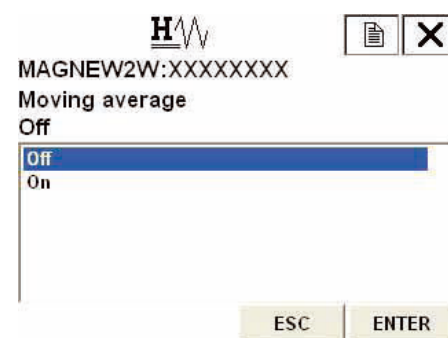

Figure 7-24
Figure 7-24 will then be displayed.
2. Once the display as shown in Figure 7-24 appears, move the arrow key up or down to select On or OFF. After making a selection, press F4 (ENTER). If F3 (ESC) is pressed here, the selection will be canceled and the display will return to the Noise immunity menu.